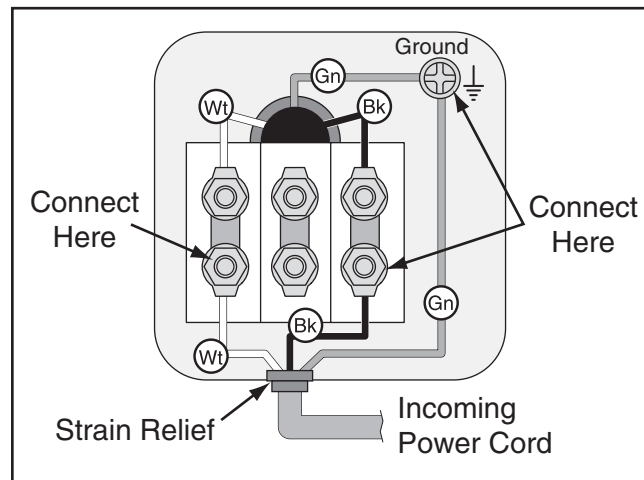

Figure 7. Power cord connection in junction box.
5. Secure the incoming ground wire to the ground terminal inside the junction box (see the illustration in **Figure 7**).
7. Secure the power cord hot wires to the bottom left and right terminal posts, as shown in **Figure 7**, then secure them with the hex nuts you previously removed in **Step 6**.